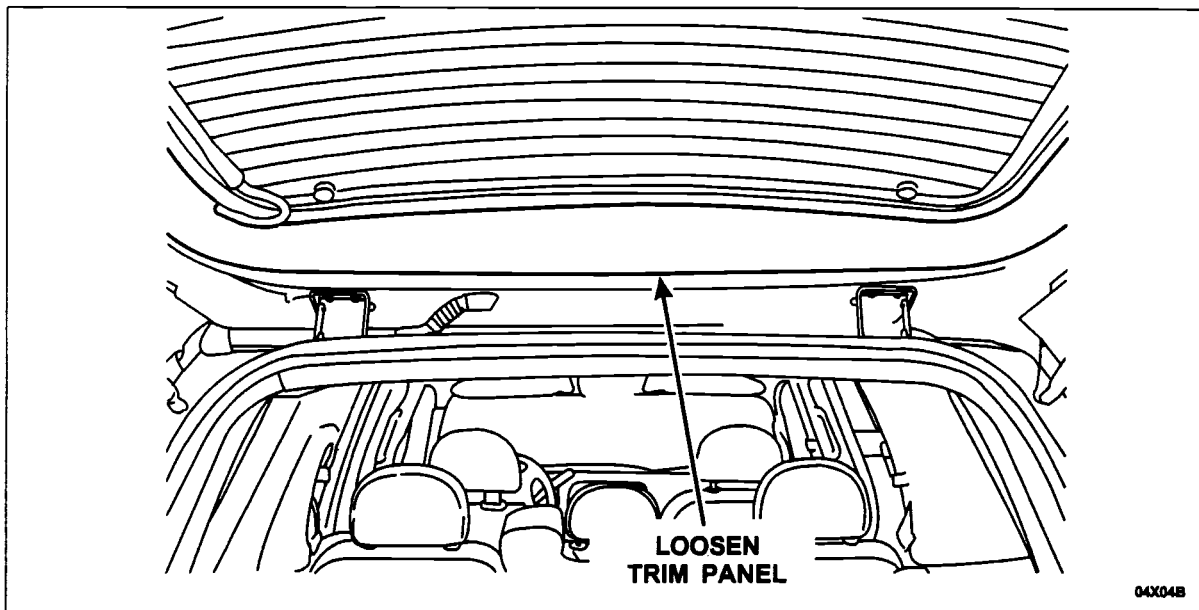

FIGURE 2
5. Position the upper part of the liftgate trim panel away from the liftgate to gain access to the hinge fasteners. See Figure 2.